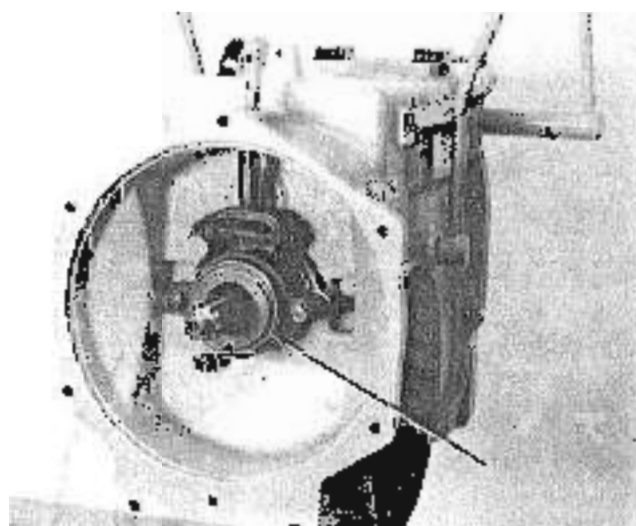

FIG. 12
- (4) Inspect throw-out bearing, (Fig. 12)